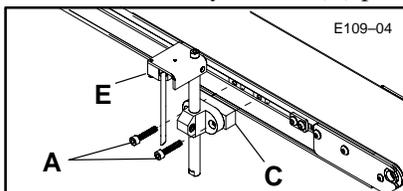

Figure 4: Photo-Eye Attachment Detail
- b. Refer to Figure 4 and attach Photo-Eye with Mounting Bracket and Spacer to the Drop-in T-bars using two M6 x 30 mm Socket Head Cap Screws. Tighten the Screws with the 5 mm Hex Key Wrench (K) provided.